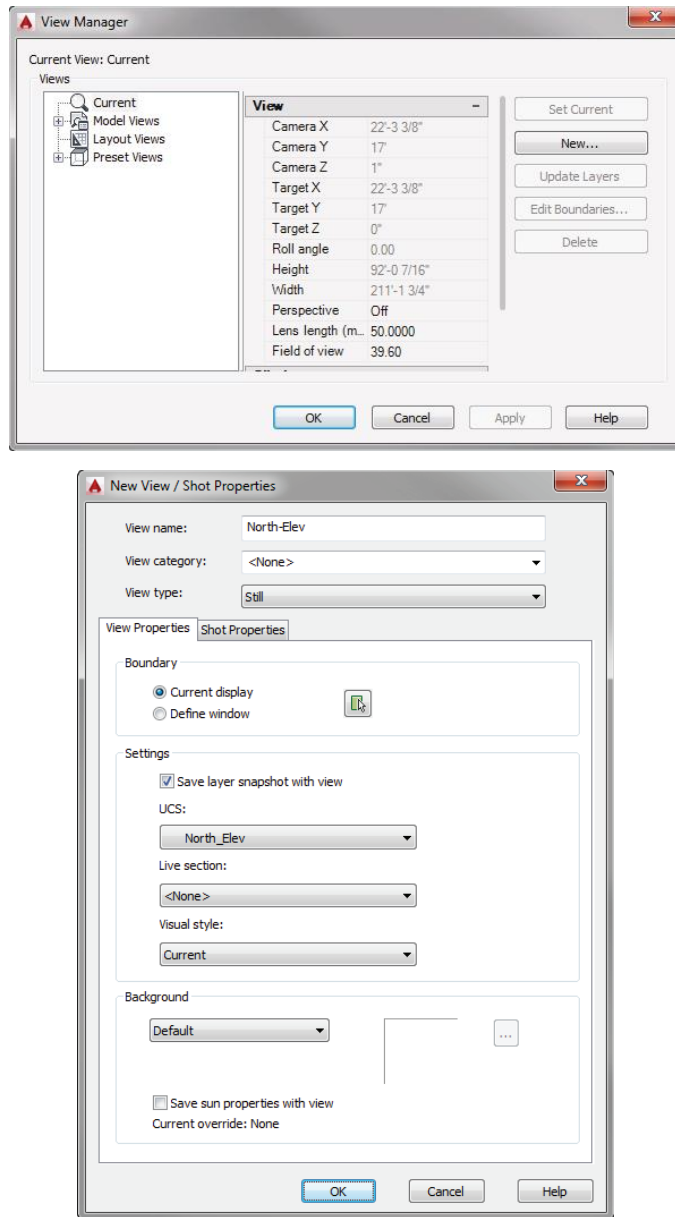

FIGURE 10.46: Saving a view in the View Manager (top) and in the New View / Shot Properties dialog box (bottom)
17. Click the View Manager button in the View tab > Views panel to open the View Manager dialog box, shown at the top of Figure 10.46. You can also start the VIEW command by typing **V..J**.
19. In the View Name text box, enter North-Elev, as shown at the bottom of Figure 10.46.